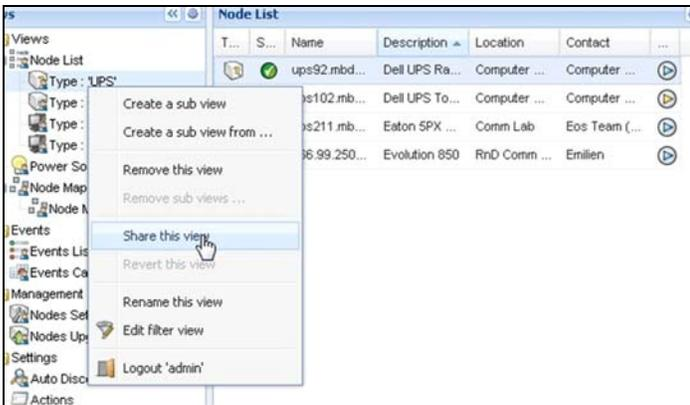

Figure 65. Share the View Selection
2. Click **Share this View** (see Figure 65).